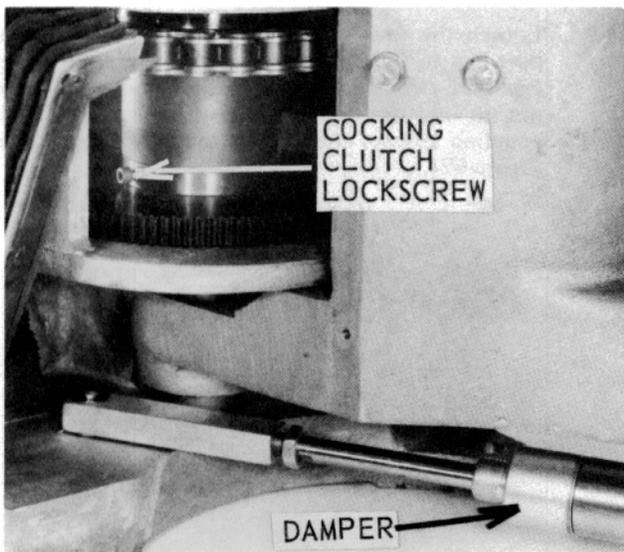

Figure 60 – Cocking Clutch Lock Screw and Damper
- 4.3 Tighten the cocking clutch lock screw. Reconnect the damper to base (see Figure 60).